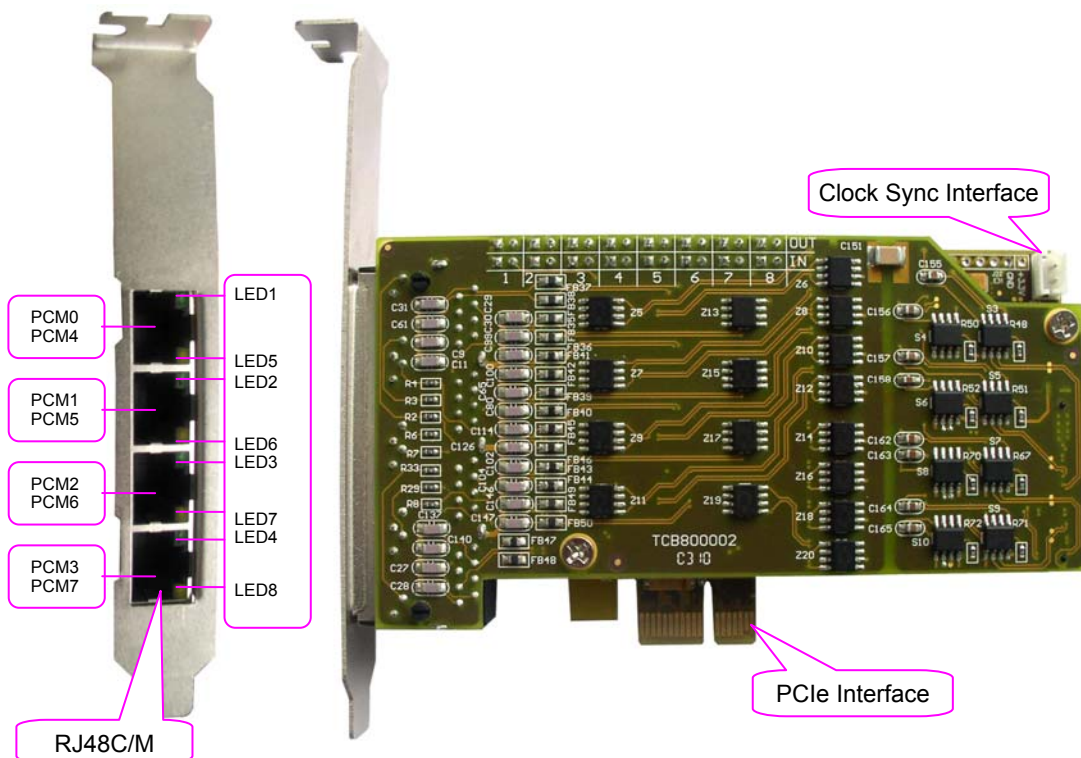

Figure 2-3 Left and Front Views
- 1) PCM0~PCM7 in Figure 2-3 above are 8 transmit/receive interfaces to trunks.
- ① On: PCM synchronous; ② Flashing: PCM not synchronous; ③ Off: Port unused